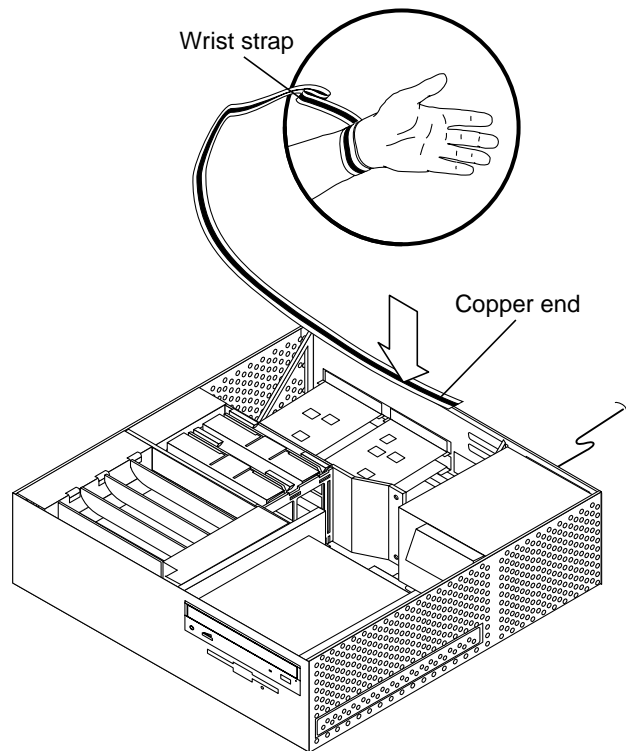

FIGURE 7-3 Attaching the Wrist Strap
1. Unwrap the first two folds of the wrist strap and wrap the adhesive side firmly against the wrist (FIGURE 7-3).